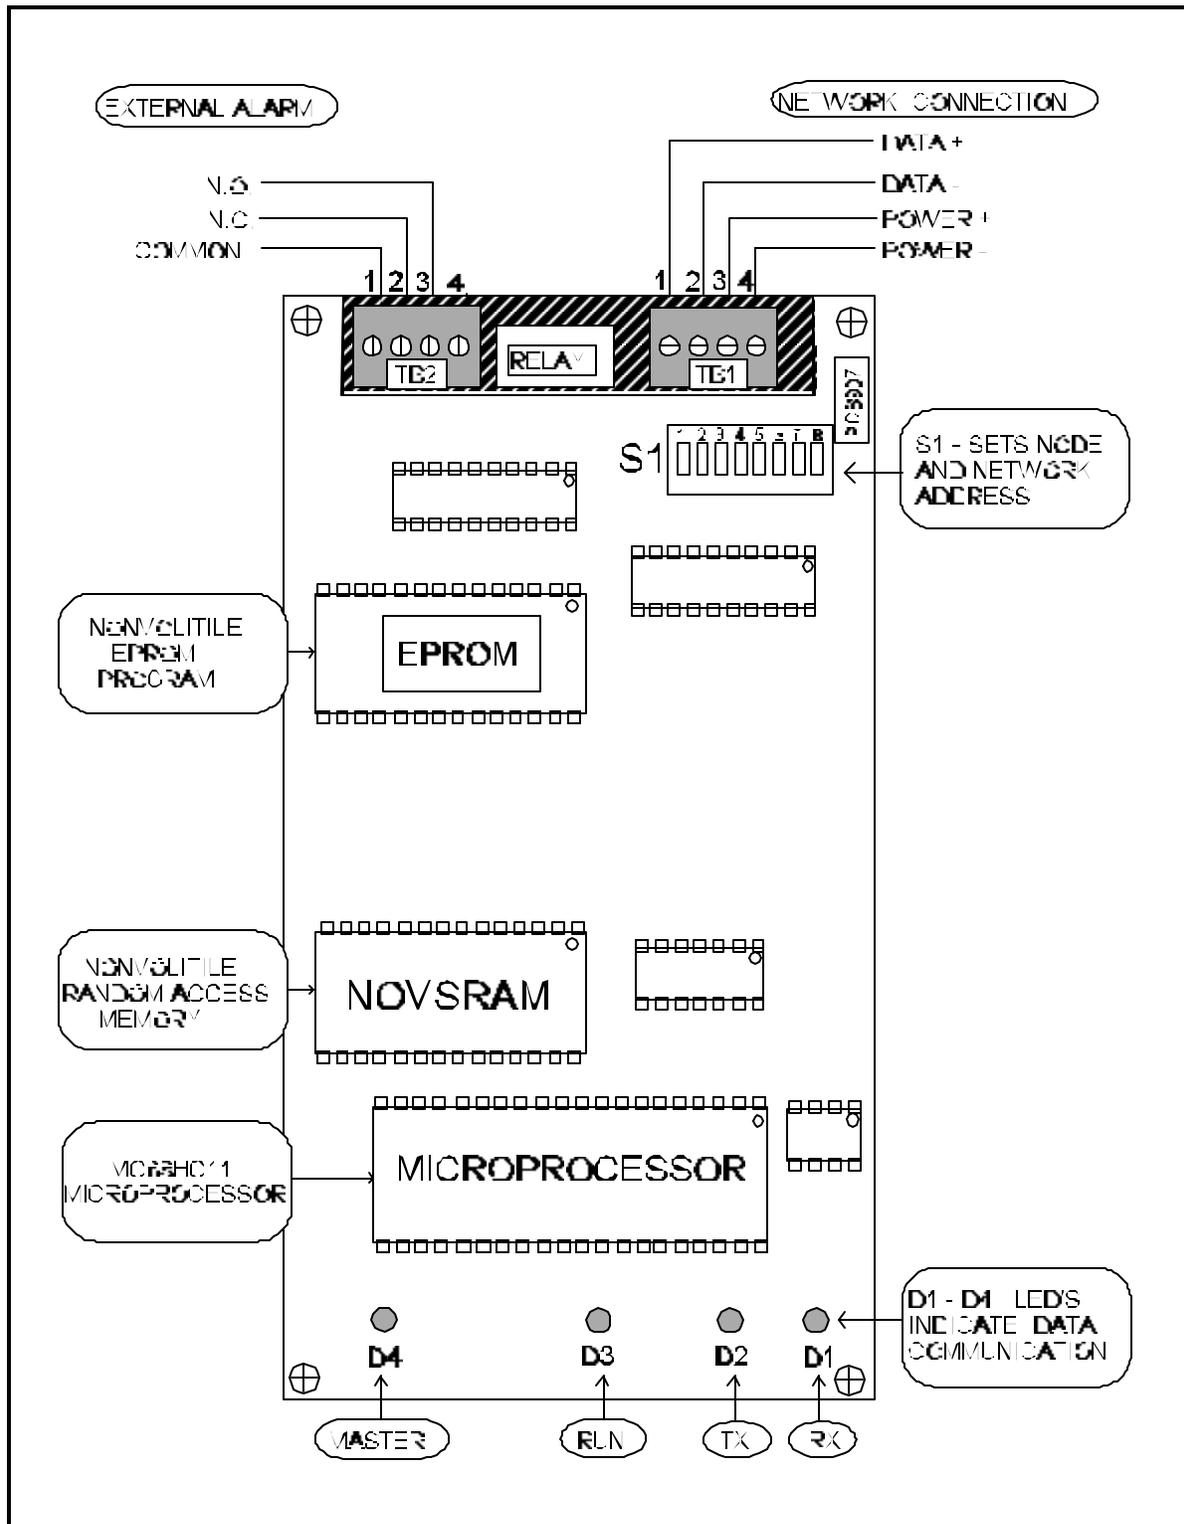

Figure D2 - Rear View of DAD104
**INSTALLATION** - See Figure D2.
**REAR LED INDICATORS See Figure D2.**